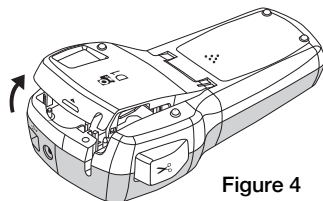

Figure 4
- 1 Lift the label cassette cover to open the label compartment. See Figure 4.